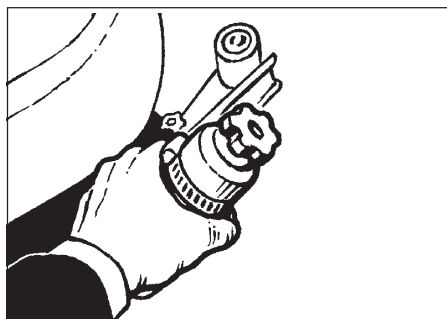

Figure 41
8. Make sure that the plug in the recovery drain hose is in place and has been tightened (see figure 41).